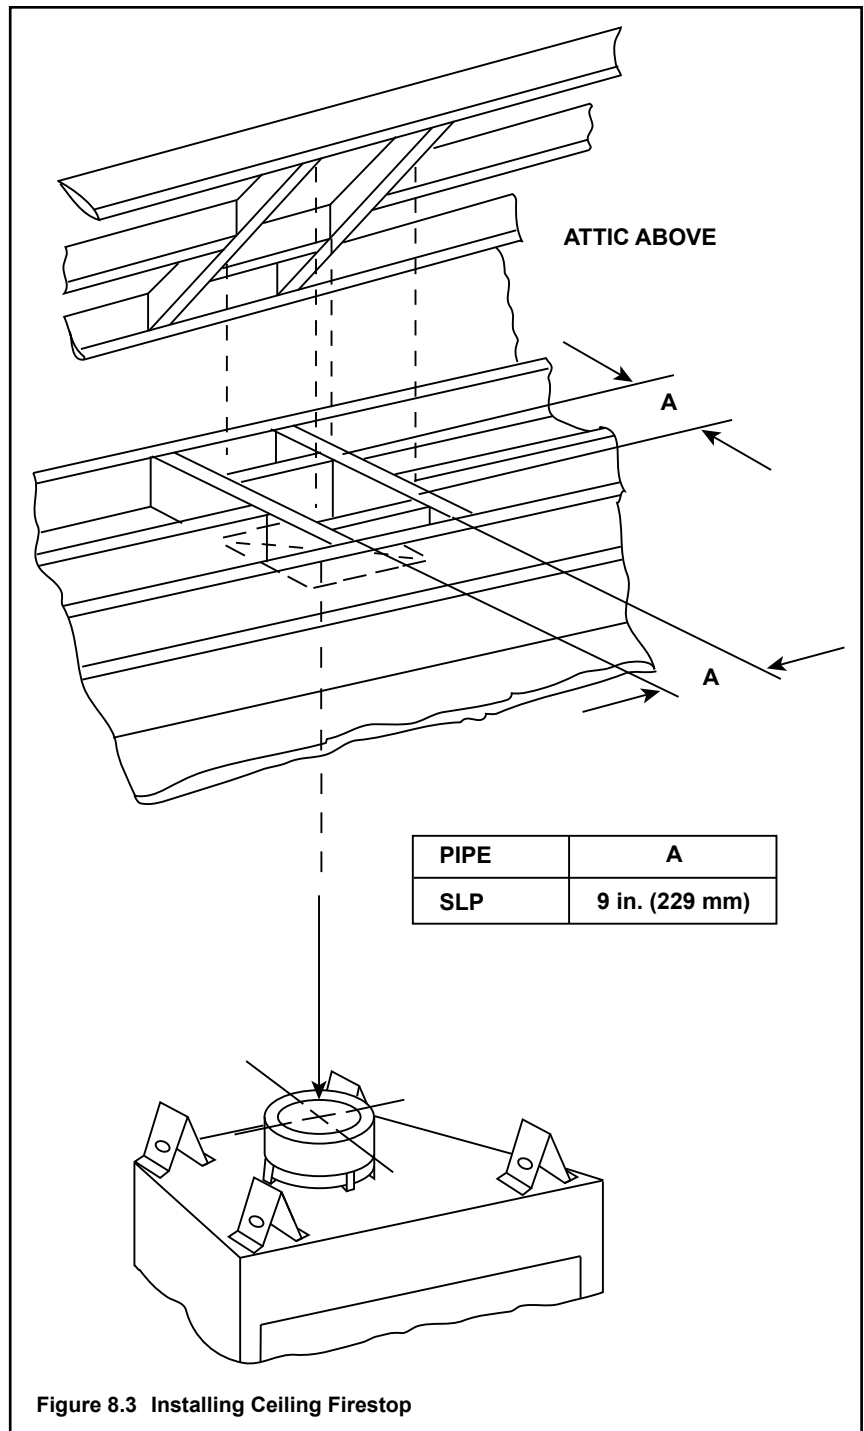

Figure 8.3 Installing Ceiling Firestop
- Frame opening 9 in. x 9 in. (229 mm x 229 mm) whenever the vent penetrates a ceiling/floor (see Figure 8.3).